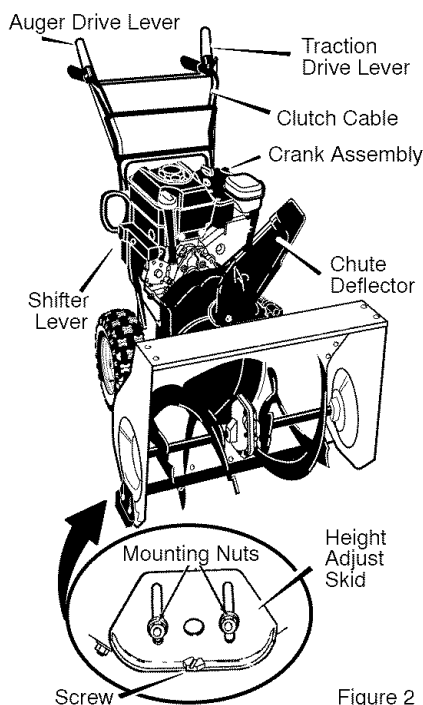

Figure 2
Figure 2 shows the snow thrower completely assembled.
5. For shipping purposes, the **height adjust skids** are attached to the pallet. Remove the **screw** that secures each **height adjust skid** to the pallet. See Figure 2.